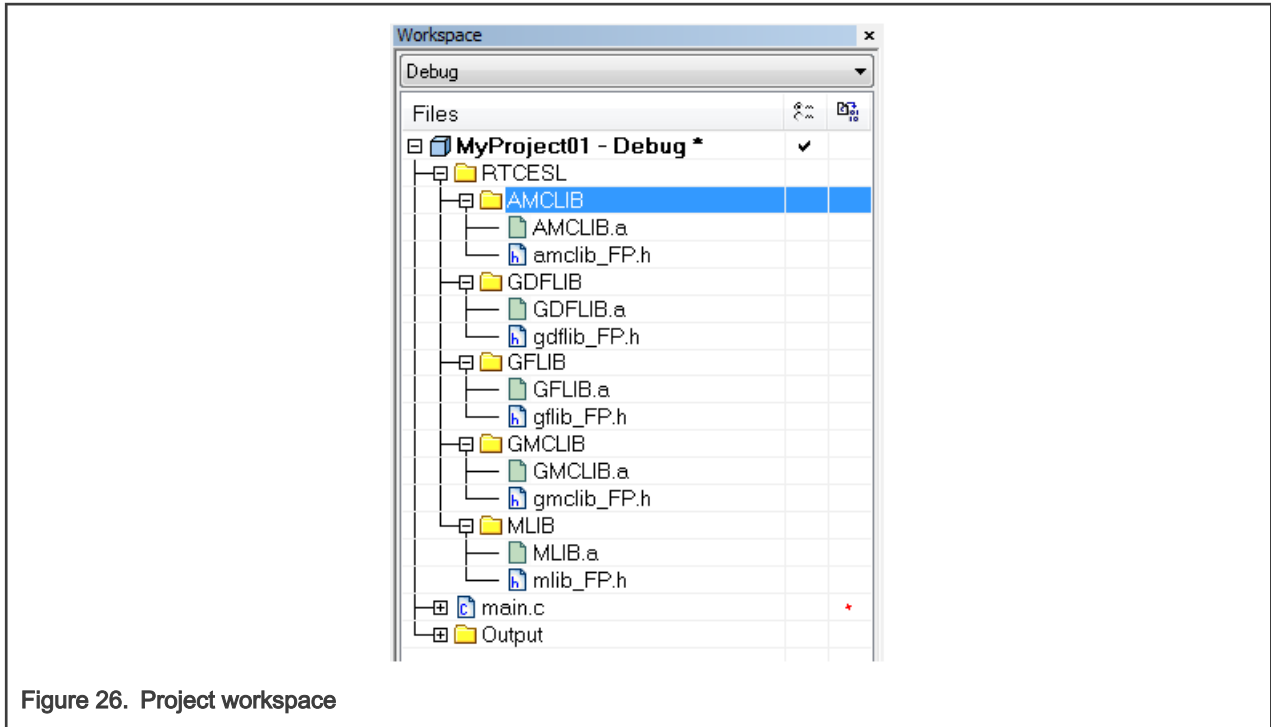

Figure 26. Project workspace
4. Click on the newly created node MLIB, and go to the main menu Project > Add Files... See Figure 26.
23. Now you will see the files added in the workspace. See Figure 26.